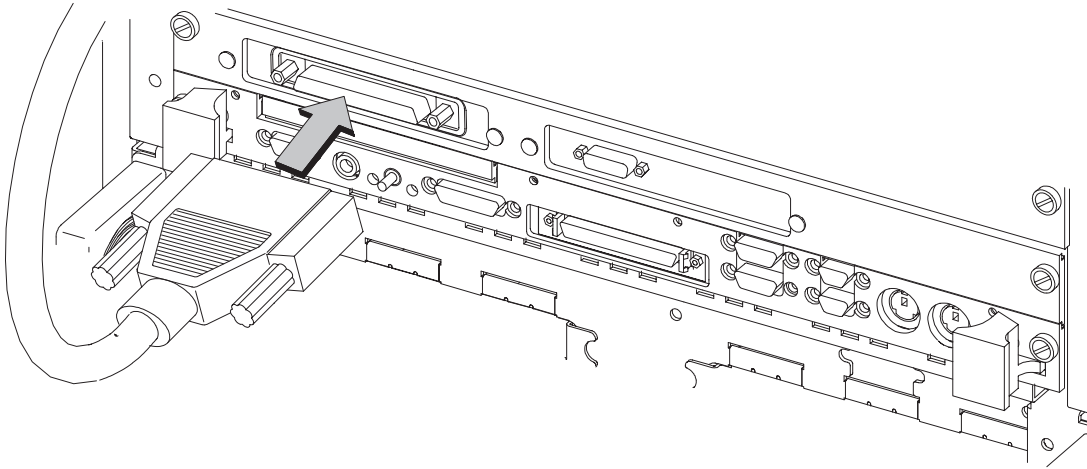

Figure 2–6. Connecting the SCSI Cable
- a.** Connect the FWD SCSI cable to the connector on the FWD SCSI adapter, as shown in Figure 2–6. Be sure to firmly tighten the screws on the connector.